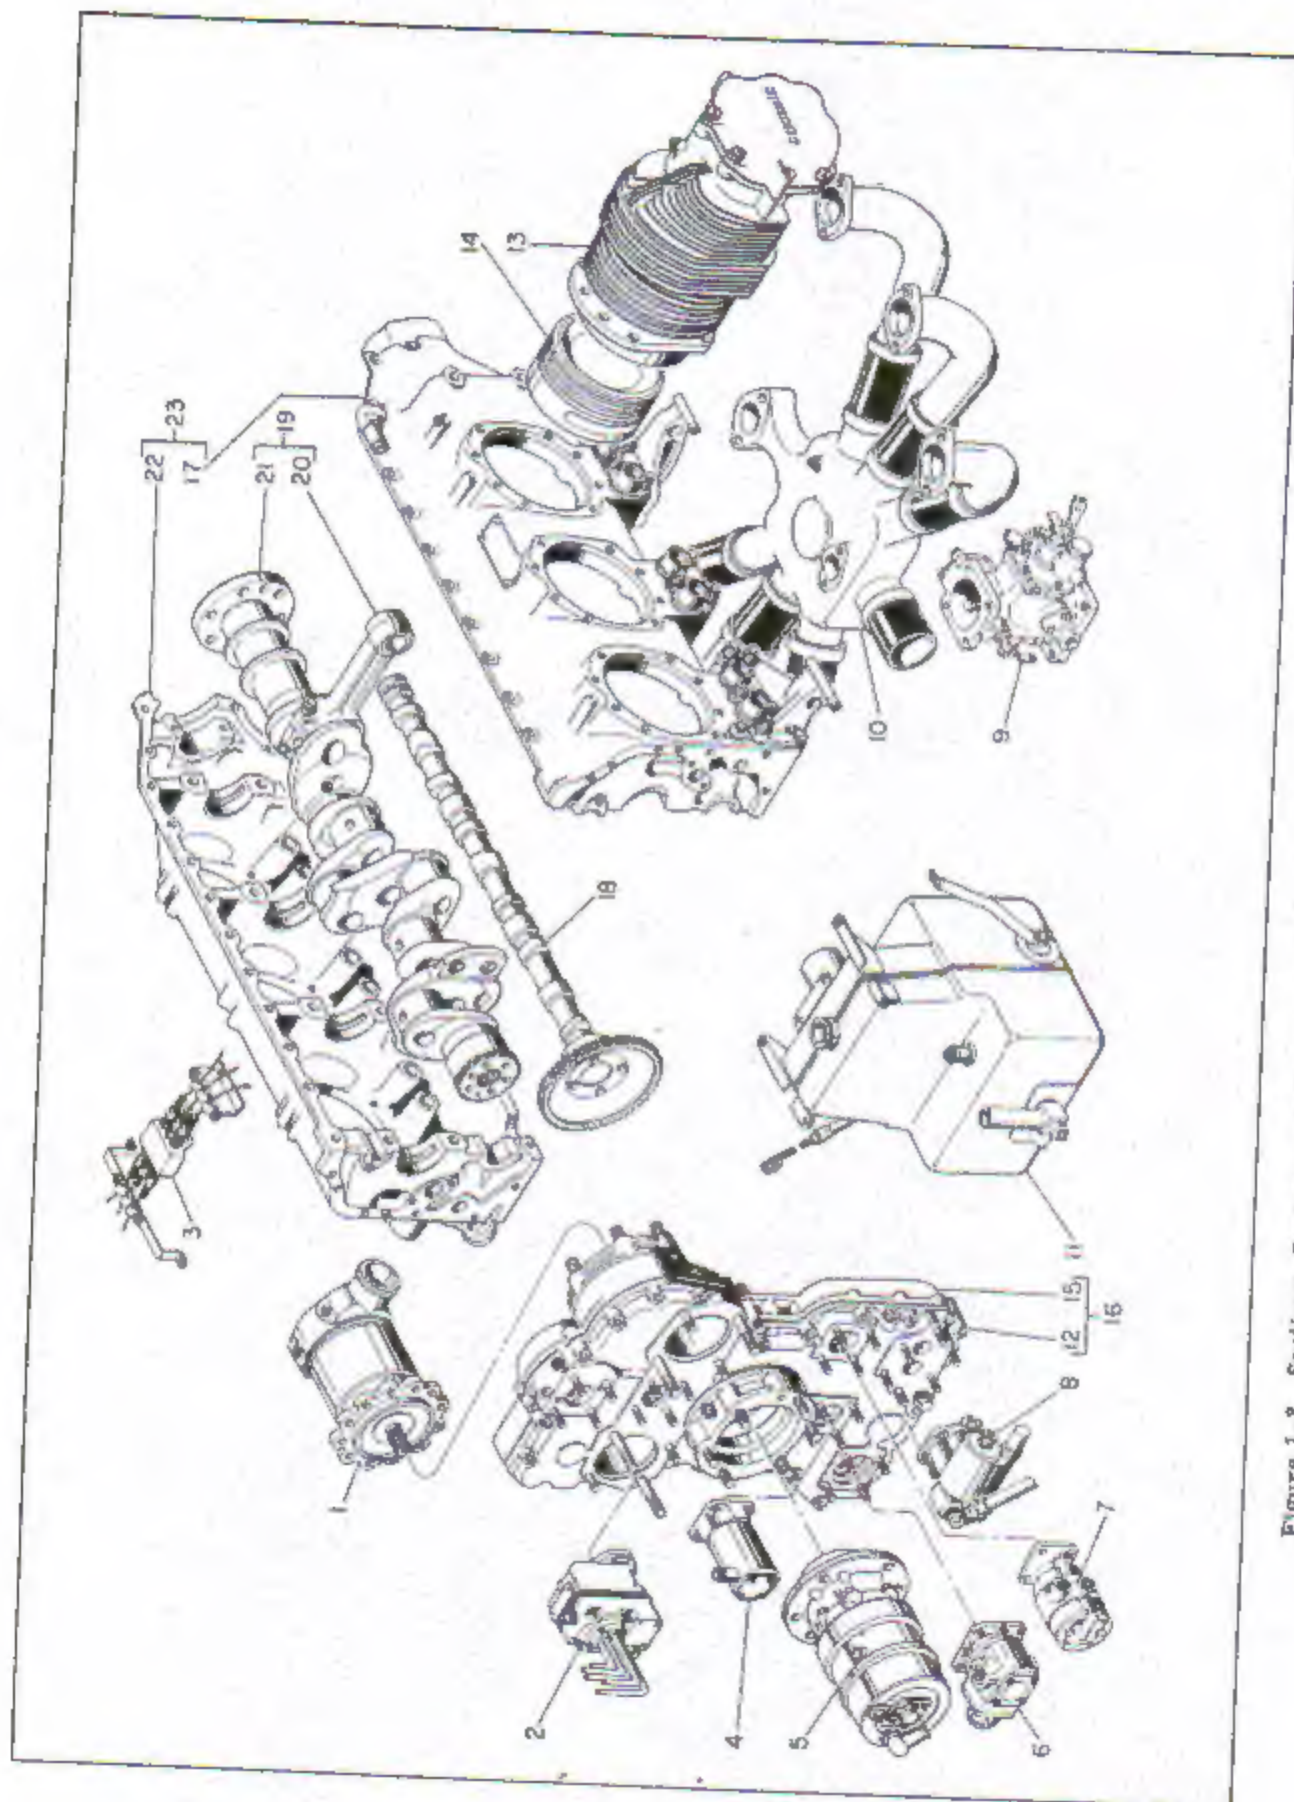

Figure 1-3. Sections, Systems and Groups of Continental Model O-470-15 Aircraft Engine
1-4. In figure 1-3 all sections and accessories of model O-470-15 engines are illustrated in "Exploded" positions and keyed by index numbers to the accompanying legend which gives correct nomenclature. Index numbers in ascending numerical sequence show the order of dismantling.
Legend for Figure 1-3
2-3. SECTIONS, SYSTEMS AND GROUPS. (See figure 1-3.) Accessories (1, 4, 5, 6 and 7) are mounted on the accessory case or on gear adapters attached to it. Magnetos are mounted on gear adapters on the rear side of the accessory case at left and right sides. The left magneto and ignition harness (2) constitutes a complete system serving spark plugs on lower sides of cylinder heads, while the similar system on the right side, including an identical magneto, serves upper spark plugs. The cylinder priming system (3) is mounted above the crankcase and cylinders and serves all six cylinder heads. The oil pump (8) is mounted on the rear side of the accessory case at the lower right corner. It draws oil from the sump (11) and discharges through a hose assembly connected to an elbow in the right side of the crankcase to supply oil to all moving parts. The oil pump, oil sump and connecting hoses are the only parts solely for engine lubrication, though passages in other engine parts serve to distribute or drain oil in the system. The updraft carburetor (9) is mounted on the bottom of the intake and oil drain manifold casting shown as the central part of the manifold and tubes assembly (10), which is mounted on the bottom of the crankcase and cylinder heads and serves to distribute the carburetor's fuel-air mixture to bottom side cylinder intake ports. Six identical cylinder assemblies (13) enclose identical piston assemblies (14) and are attached to crankcase pads by studs and through bolts, the latter parts passing through crankcase webs above and below the crankshaft main bearings. There are six attaching studs and two through bolts per cylinder, but the bolts are in the two rear holes of base flanges of cylinders No. 1, 3 and 5 on the right and in the two front holes of even numbered cylinders on the left, due to the staggered cylinder arrangement. The accessory case assembly (16) consists of a rear half (12), with attached magneto adapters; a starter adapter; a front half (15), with an attached generator adapter, and all enclosed accessory driving gears, excepting